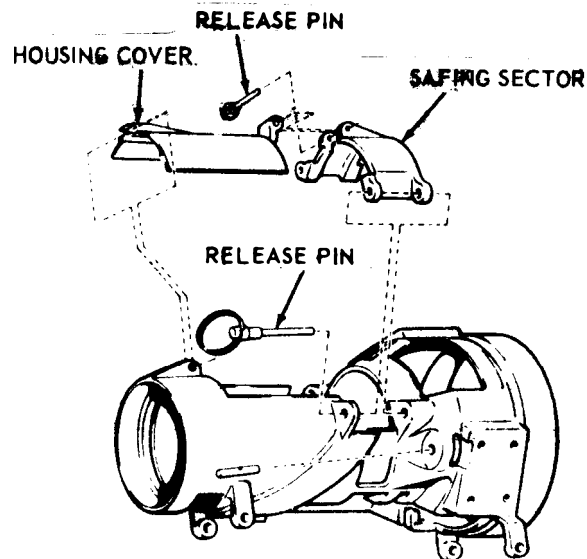

Figure 9-21. GAU-2 Gun Showing Cover and Safing Sector
- c. Remove the four pins and the cover and safing sector from the GAU-2 (see figure 9-21).